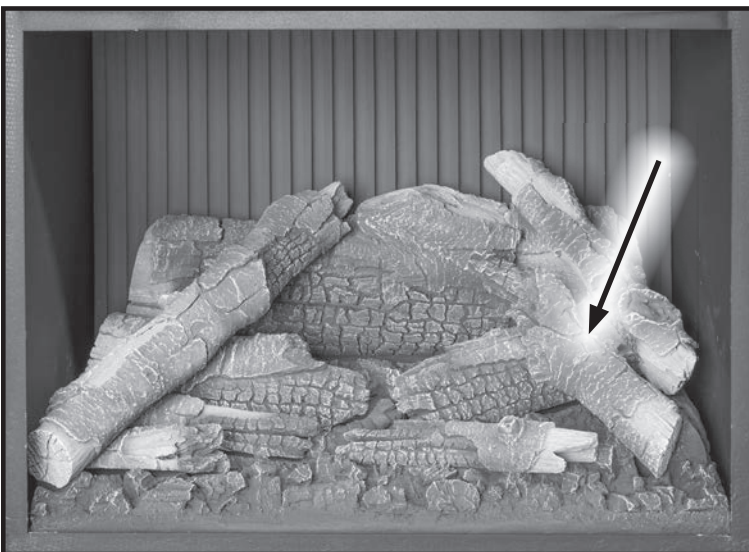

Figure 46. Final Top Log.
7. Install the last log on top, on the right side, as shown in Figure 46. Note the locating notch on the bottom side that matches the half round on top of the large bottom log sitting on the ember bed.